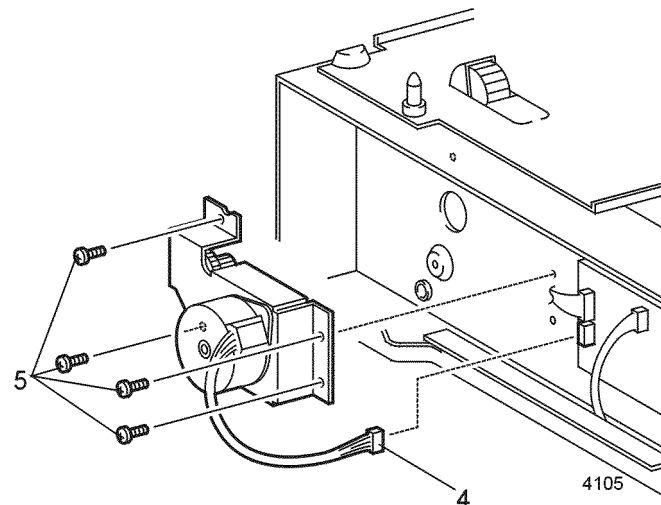

Figure 1 Feeder Drive Assembly
4. Disconnect P/J13B from the Feeder PWB (Figure 1).
5. Remove the four screws that secure the Drive Assembly to the printer frame (Figure 1). Remove the Drive Assembly.